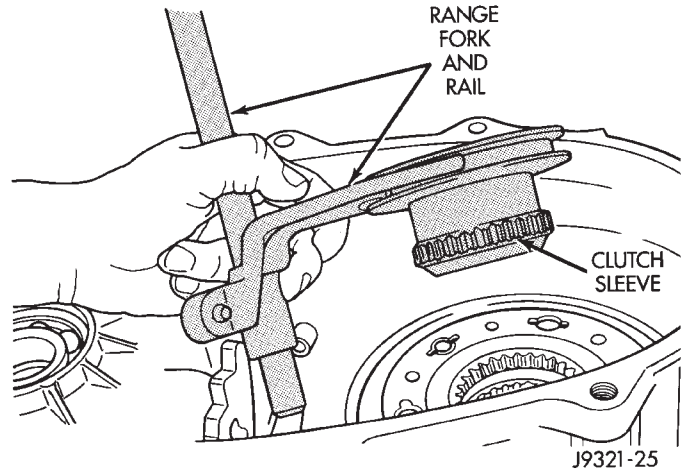

Fig. 40 Range Fork And Clutch Sleeve Removal
(25) Remove range fork, rail and clutch sleeve as assembly (Fig. 40). Lift shift rail upward, rotate fork out of shift sector and remove assembly.